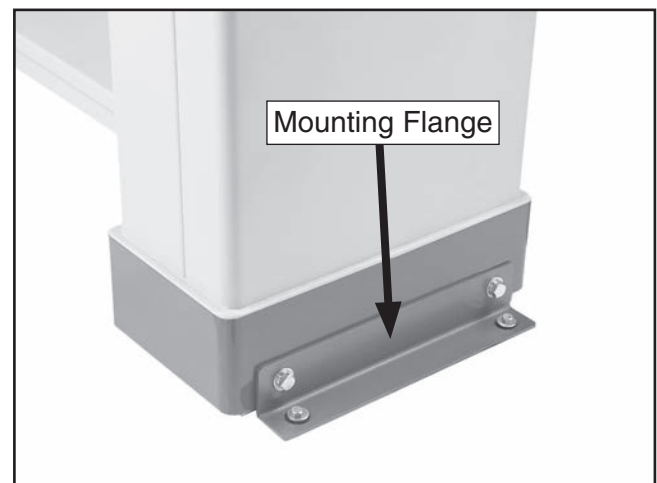

Figure 11. Right side mounting flange.
4. Twist EMERGENCY STOP button clockwise until it springs out (see **Figure 11**). This resets the switch so the machine can start.